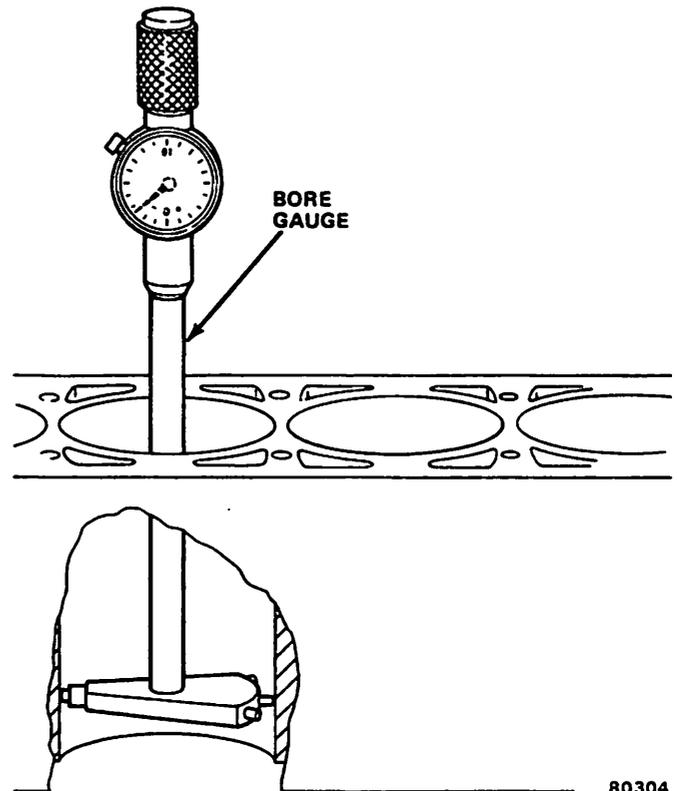

Fig. 1B-98 Measuring Cylinder Bore with Bore Gauge
Use a bore gauge to measure the cylinder bore (fig. 1B-98). If a bore gauge is not available, use an inside micrometer.
(4) Clean cylinder bores thoroughly. Apply light film of clean engine oil to bores with clean, lint-free cloth.
(5) Install piston rings on piston. Refer to Piston Rings for procedure.
(6) Lubricate piston and rings with clean engine oil.
(7) Use Piston Ring Compressor Tool J-5601 to install connecting rod and piston assemblies through top of cylinder bores (fig. 1B-82).
(8) Apply oil to inserts. Install connecting rod bearing inserts and caps in same location as removed. Tighten retaining nuts with 33 foot-pounds (45 N•m) torque.
(9) Install oil pump with replacement pickup tube and screen assembly.
(10) Install oil pan using replacement gaskets and seals. Tighten drain plug.
(11) Install camshaft and timing chain—sprocket assembly.
(12) Install timing case cover.
(13) Install vibration damper and drive pulley.
(14) Install valve tappets.
(15) Install gasket and cylinder head.